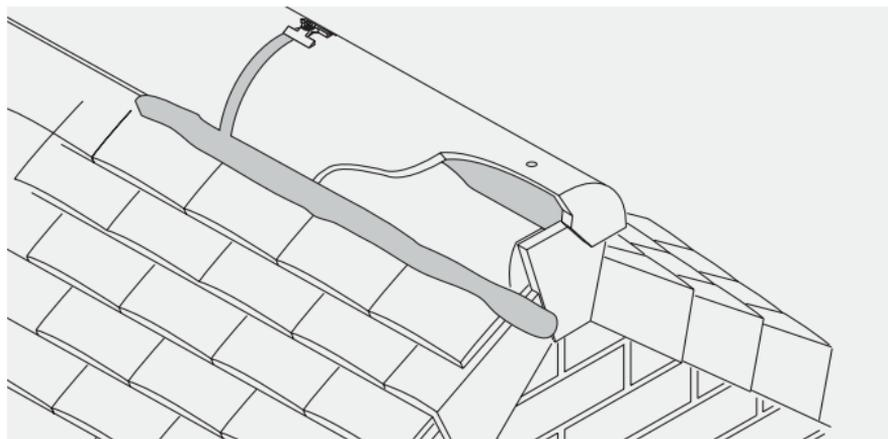

Fig. 53 – Mortar bedded stop end ridge tile used to finish cloak verge at ridge
- 7 Complete the apex closure of the two top course cloak verge tiles by fitting a Stop End Ridge Tile and a tile-and-a-half/gable tile, cut to fit between the vertical legs of the top course cloak verge tiles. Drill and nail cut tile to timber groundwork (Fig. 53).